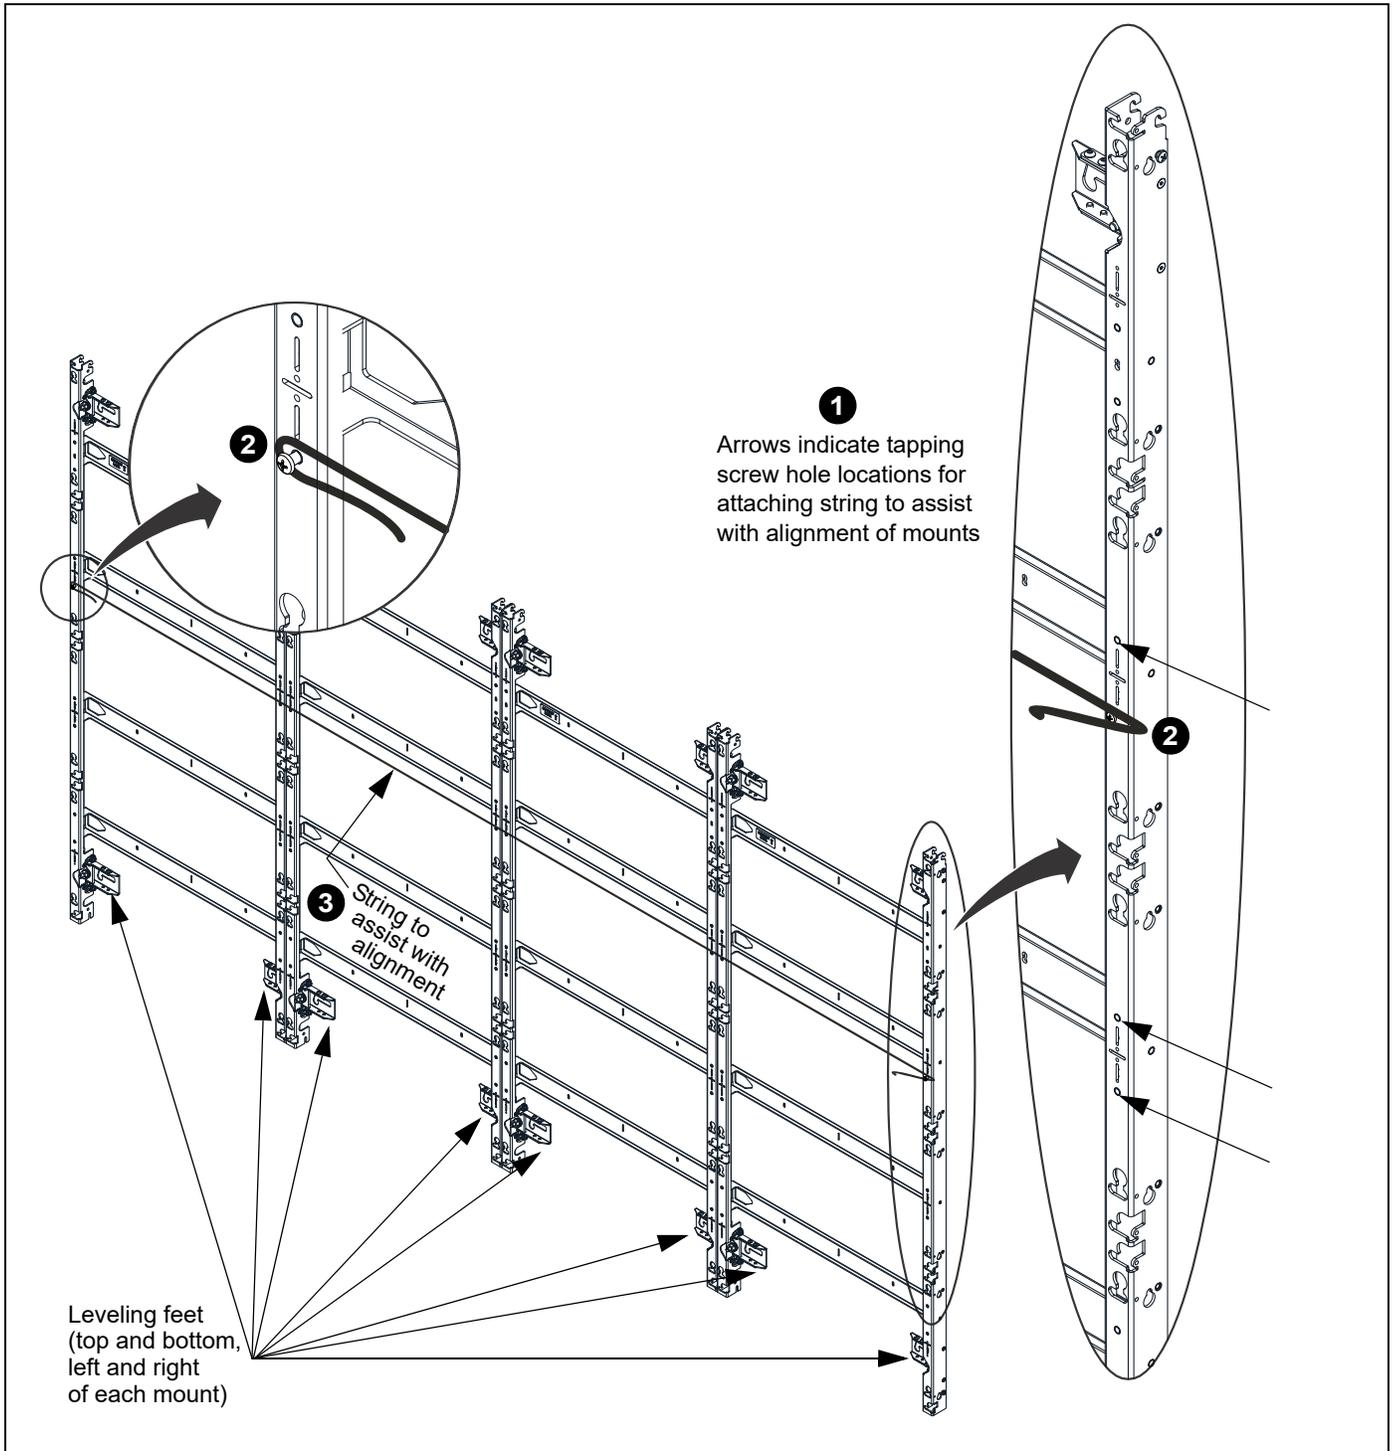

Figure 16
NOTE: There are multiple points on each mount where the screws can be installed for the plumb line. At a minimum, the plumb strings should be strung next to each adjustment point (at every leveling foot). (See Figure 16)
2. Loosely install the self-tapping screws then wrap the string around the screw and tighten. (See Figure 16)
3. Run the string tightly between the same hole at each end of the row of mounts. (See Figure 16)